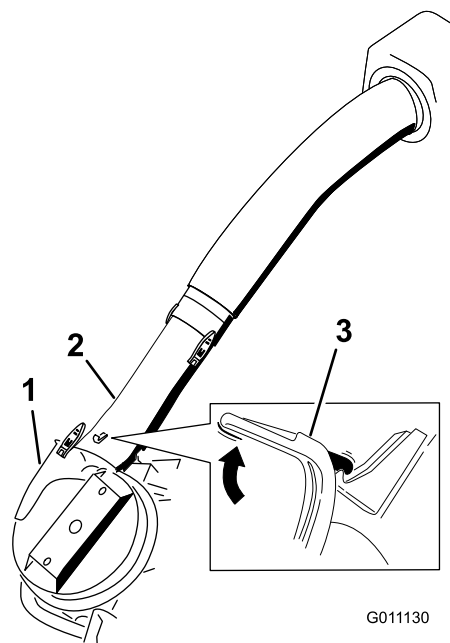

Figure 26
9. Slide the lower tube onto the blower assembly and latch them together (Figure 26).